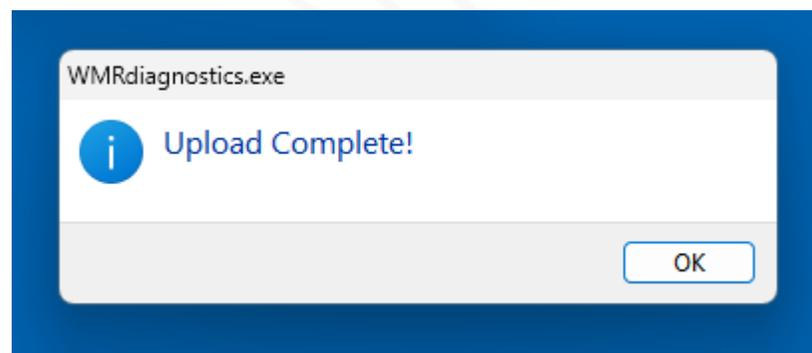

Figure 7
9. When the update has finished you will get a message on the screen that the update is complete (figure 7). Click on OK.